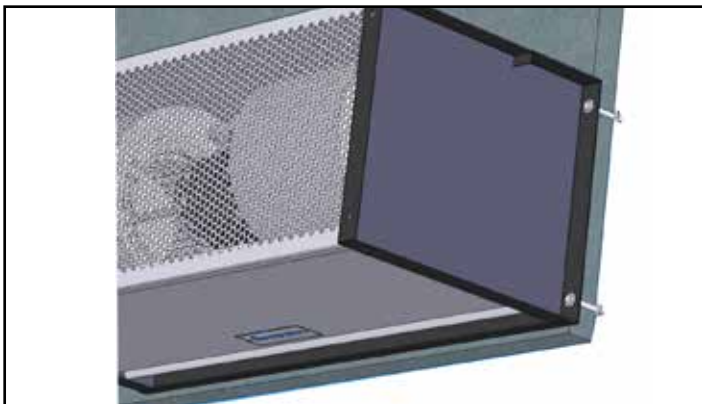
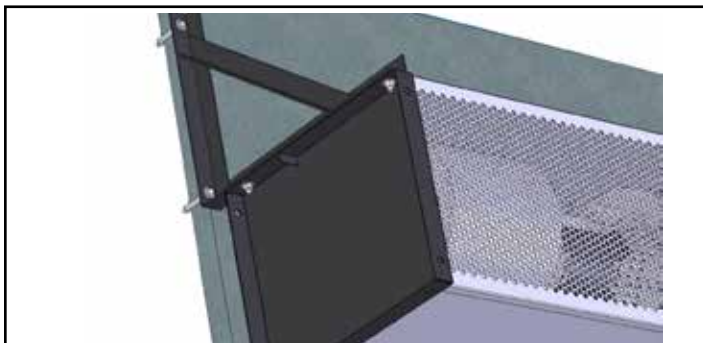

Figure 3 Wall Mounting
Figure 4 Wall Mounting Bracket
- B. The IDC12/IDC14 Series end plates are equipped with $\frac{1}{2}$ " holes for wall mounting. The unit may be attached to the wall using, at minimum, $\frac{3}{8}$ " bolts through the holes on the back of the end plate. **See Figure 3.** Or, the unit may be attached using an optional wall mounting bracket or a combination of extension and wall mounting brackets (available from Berner) attached to the holes on the top of the end plate and the wall. **See Figure 4.**